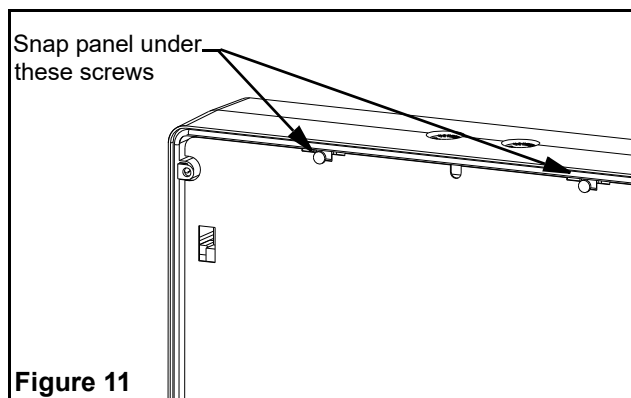

Figure 11
4. Install the diffuser panel by snapping the top edges under the two top retention screws and then snapping the bottom edges under the two bottom retention screws (see fig. 11).